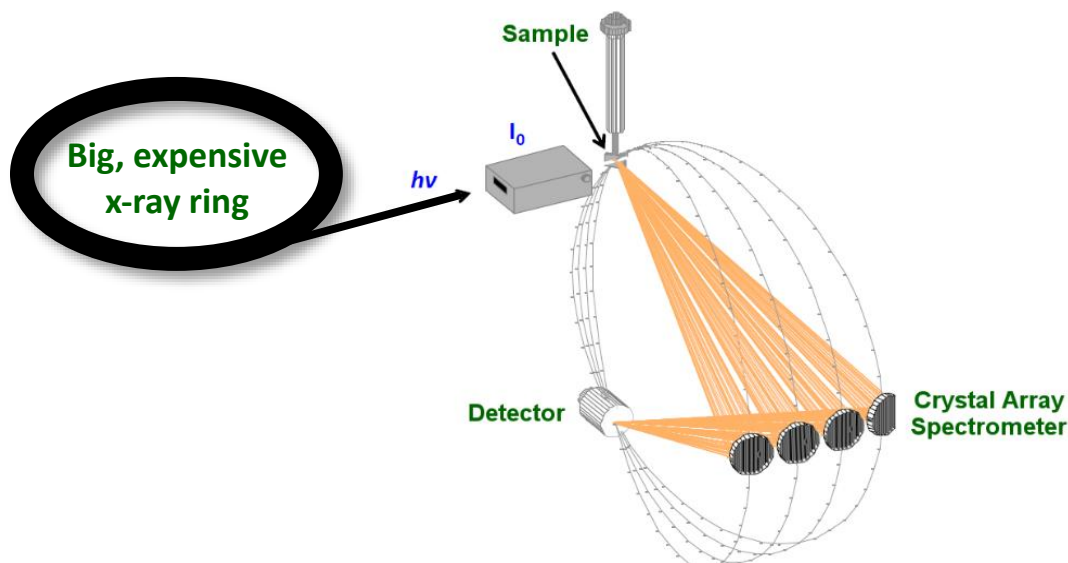

Figure 3-1: A cartoon of the experimental setup for XES.
- 2) As a reminder, XES spectra are collected using a setup like the one shown in Figure 3-1, where an incident x-ray beam excites a sample and the resulting fluorescence is reflected onto a detector using crystal analyzers. At CHESS, we measure the incident intensity at the sample using an ion chamber (Ion1) and collect the XES fluorescence using a Pilatus 2D detector. In order to scan the emitted energy, the analyzers and detector move along the indicated circles (so-called "Rowland circles"), so the data we collect are a function of analyzer angle rather than emitted energy. Calibration from angle to energy is straightforward, but outside the scope of this tutorial.